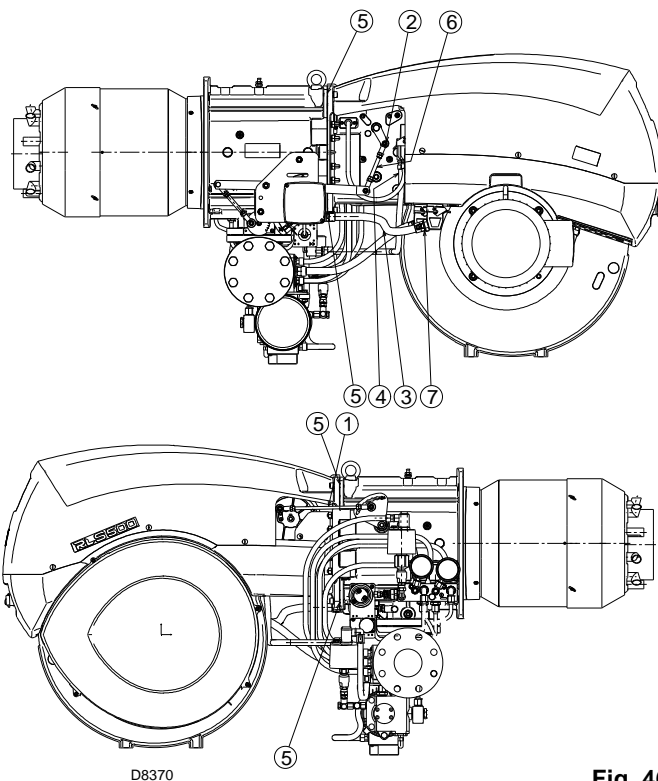

Fig. 46
- Remove the tie rods 1) and 6) (Fig. 46) of the head movement and damper opening lever by loosening nuts 2).